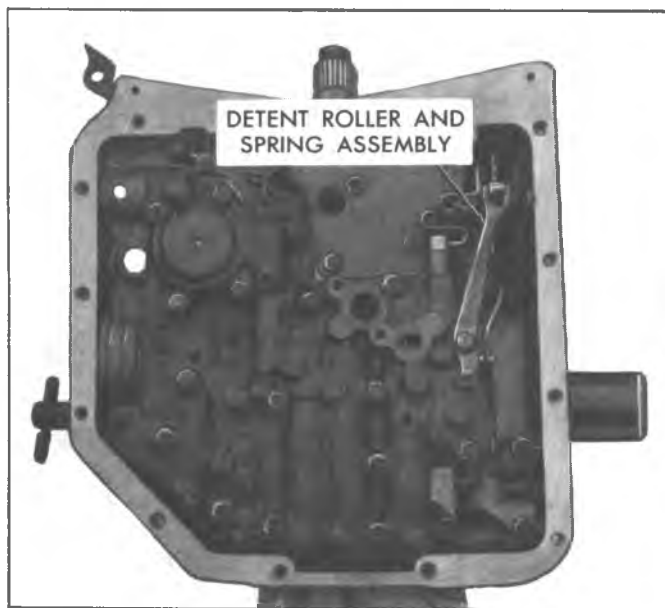

Fig. 11N--Detent Spring and Roller Assembly
1. Remove detent spring and roller assembly from valve body. Remove valve body to case attaching bolts (fig. 11N).